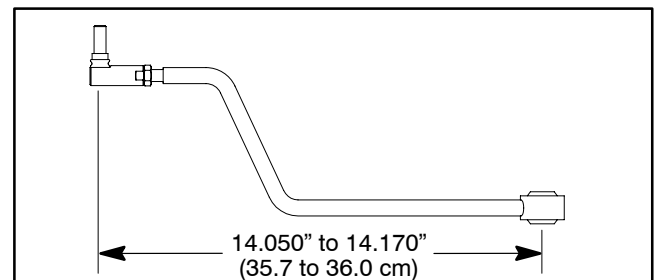

Figure 45
3. If ball joint was removed from traction rod, install ball joint so that distance from center of ball joint stud to center of bearing is from 14.050" to 14.170" (35.7 to 36.0 cm) (Fig. 45).